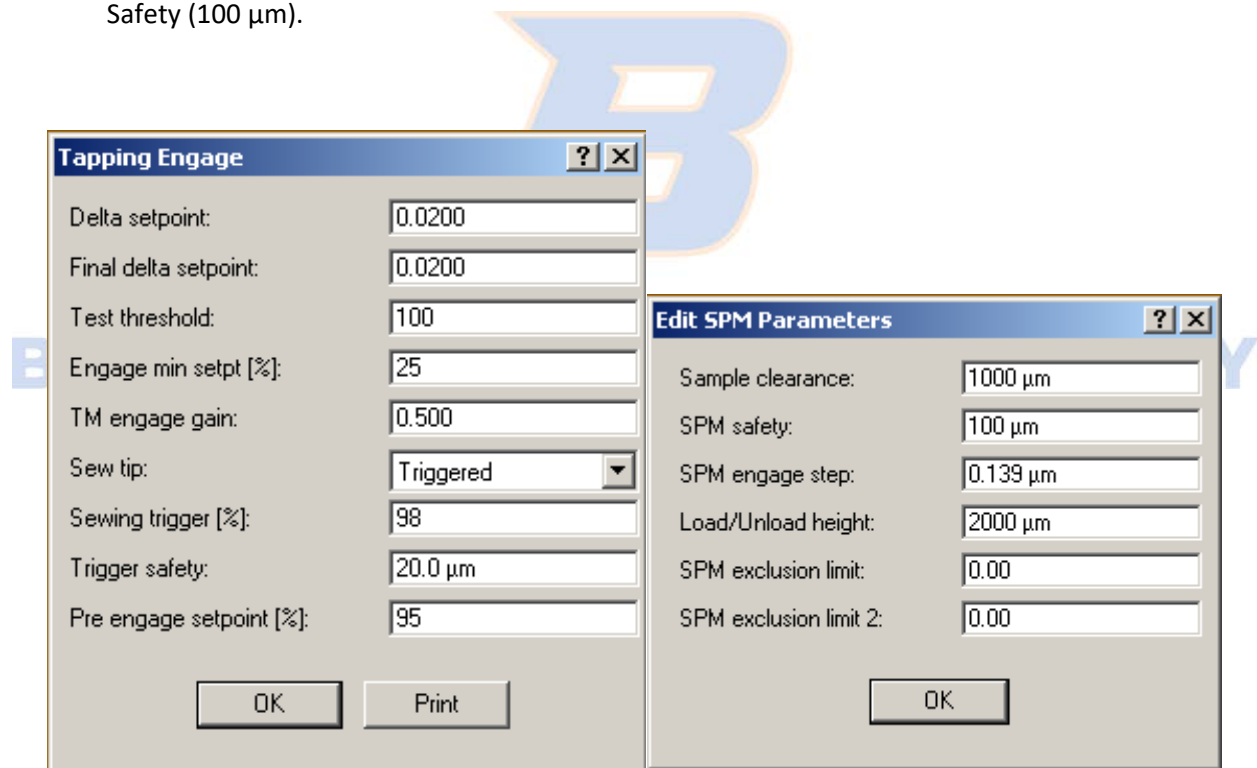

Figure 12. Tapping (left) and general SPM (right) engage settings.
- b) Check the Engage Settings. Click "Tools", then "Engage Settings". If running a tapping mode scan, select "Tapping" and ensure the parameters are set as shown in Figure 12 below ("Tapping Engage"). Select "OK". Next select "General" and ensure the parameters are set as shown in Figure 12 below ("SPM Parameters"), in particular the Sample Clearance (1 mm or 1000 μm) and SPM Safety (100 μm).